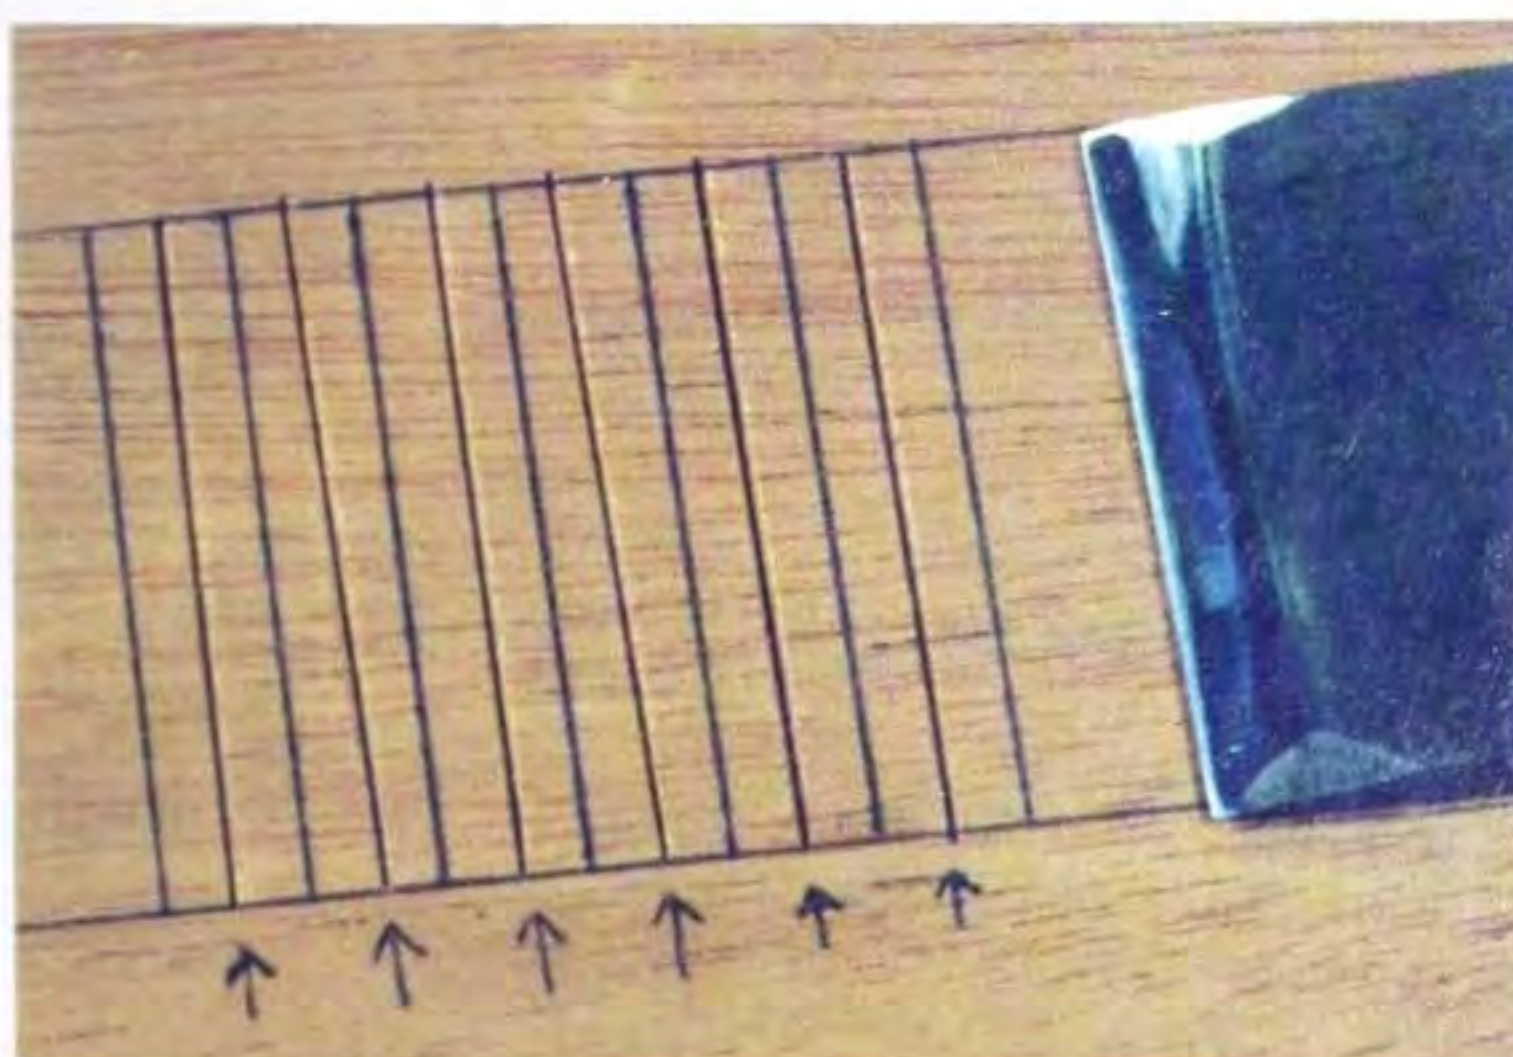

Fig 5.9 The completed stab cuts between the lines. Inspect your results critically to see if there is room for improvement.
- 6 Strike the handle with the mallet in the usual way, remove the chisel, and repeat along the row of lines (see Fig 5.9).